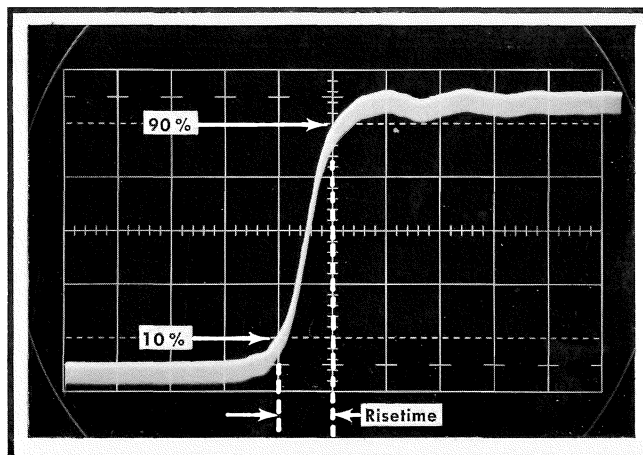

Fig. 7-27. Typical CRT display of 1.0 V Pulser risetime for step 27.
d. Check for a risetime of ≤ 1.1 ns as measured from the 10% to 90% amplitude points. See Fig. 7-27.